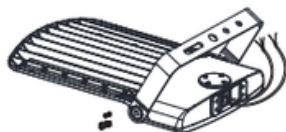

Figure 9
Step 1: First install two big screwst. (Figure 9)